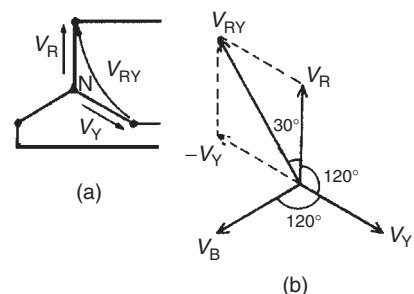

Figure 20.4
- (vi) The line voltage, V_{RY} , shown in Fig. 20.4(a) is given by $V_{RY} = V_R - V_Y$ (V_Y is negative since it is in the opposite direction to V_{RY}). In the phasor diagram of Fig. 20.4(b), phasor V_Y is reversed (shown by the broken line) and then added phasorially to V_R (i.e. $V_{RY} = V_R + (-V_Y)$). By trigonometry, or by measurement, $V_{RY} = \sqrt{3} V_R$, i.e. for a balanced star connection: